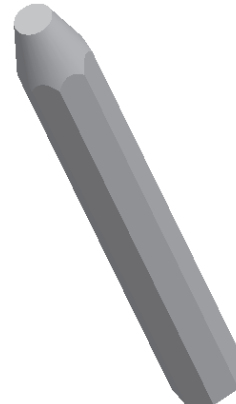

Figure 7-101 Model after creating the draft feature
- d. Create the draft feature, refer to Figure 7-101.
7. Choose the **Build feature** button from the **Draft** dashboard to complete the draft feature, as shown in Figure 7-101.